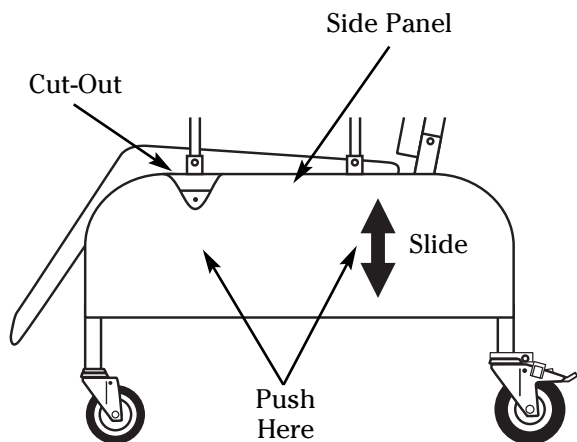

Figure 3
3. Slide the panel up or down until the panel is flush with the top of the frame (See fig 3).